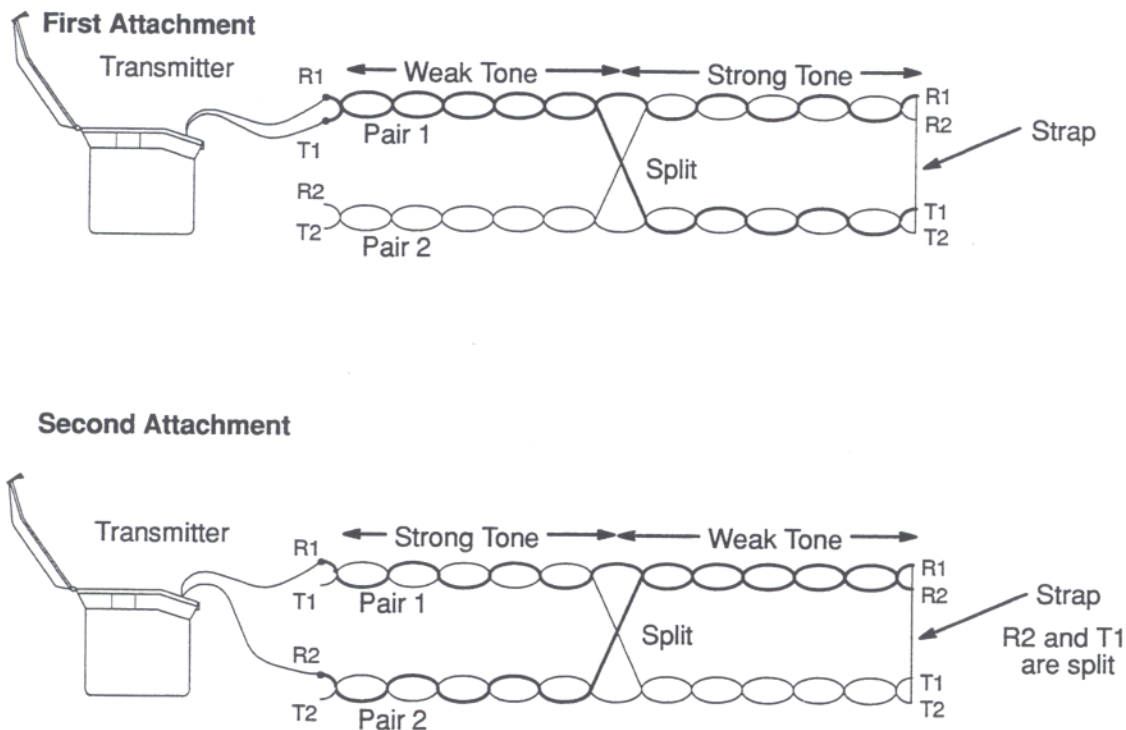

Fig. 4-2 Attachments for Split Location
- 3.1 To locate the splice where a split occurs, refer to Fig. 4-2 and use this procedure: